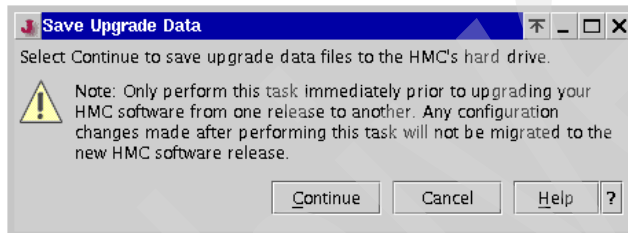

Figure 6-6 Save Upgrade Data (warning)
4. Another information window opens as shown in Figure 6-6. When ready, click **Continue**.